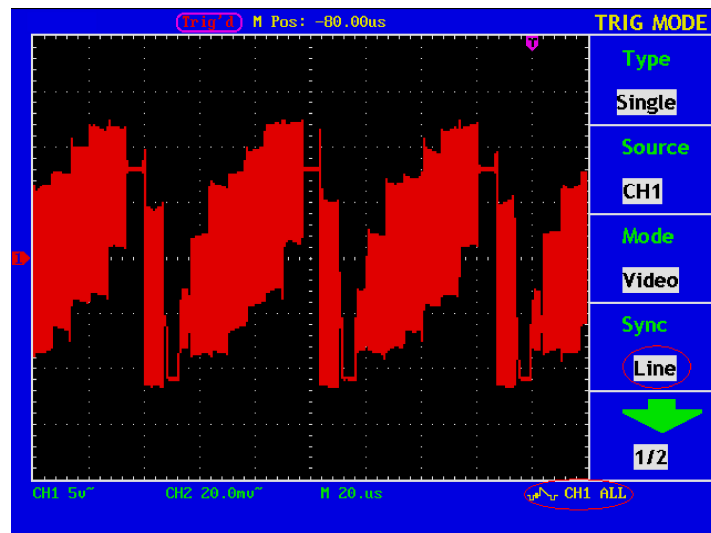

Fig. 111 Wave Form Obtained from the Video Line Trigger
6. Adjust the **VOLTS/DIV**, **VERTICAL POSITION** and **SEC/DIV** knobs to obtain the proper wave form display (see Fig. 111).